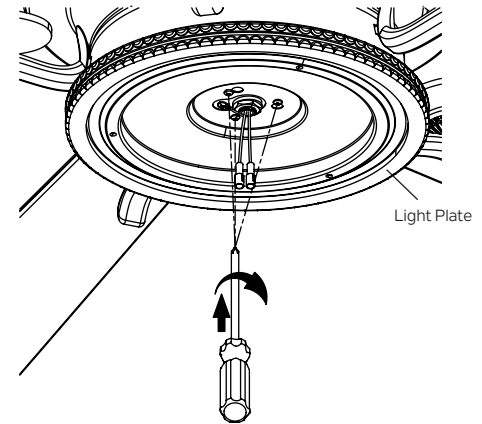

Fig. 23
Step 2. Place the two slot holes on the light plate over the 2 screws previously loosened from the mounting plate. Rotate the light plate until it locks in place at the narrow end of the key holes. Secure by tightening the 2 screws previously loosened and the one previously removed. (Fig. 23)